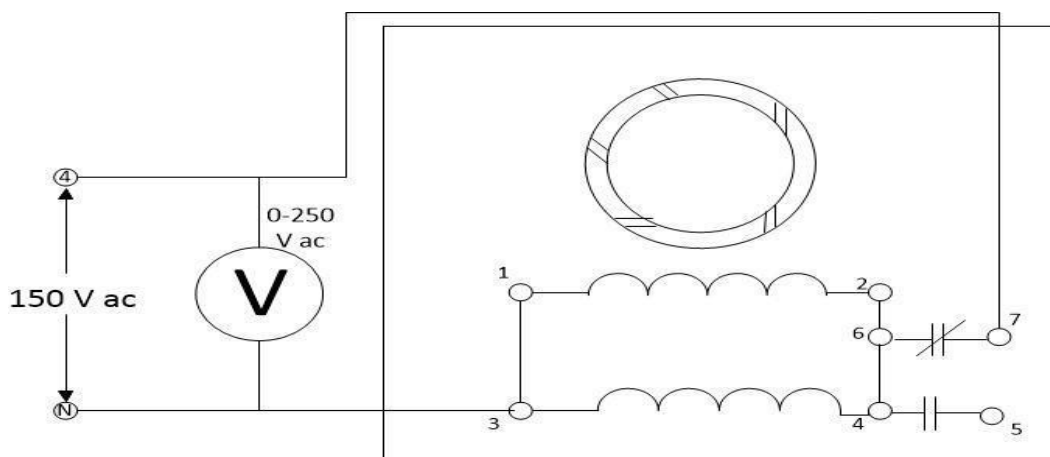

Figure 1-2
9. Connected the circuit shown in Figure 1-2. Noted that both windings are connected in parallel and that the centrifugal switch was in series with the parallel connected motor windings and the 150V ac Power Supply terminals 4 and N.